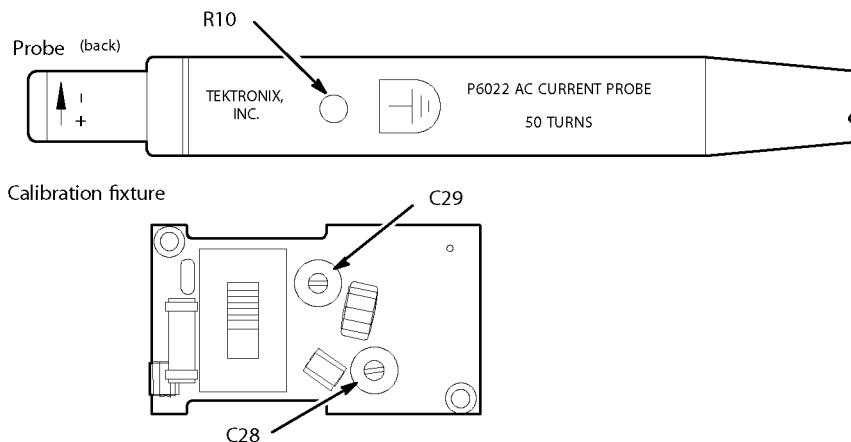

Figure 8: Location of probe and termination adjustments
7. Adjust C28 and C29 (in the termination), and then R10 (through the hole in the probe body) to minimize aberrations and achieve the best flat-top response. The adjustment locations are shown in the illustration. (See Figure 8 on page 24.)